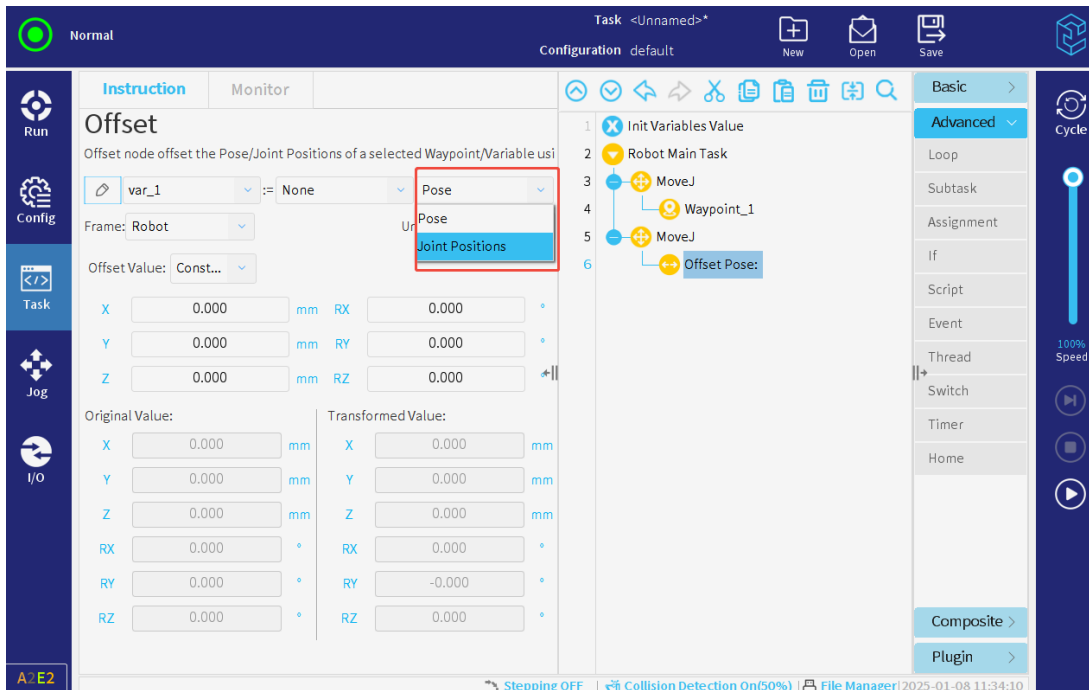

Figure 3-111 : Select Data Type for the Waypoint
- If the data source is a waypoint, then tap the last box at the first line to select "Pose" or "Joint Positions" as the data type for the waypoint, as shown in **Figure 3-111** .